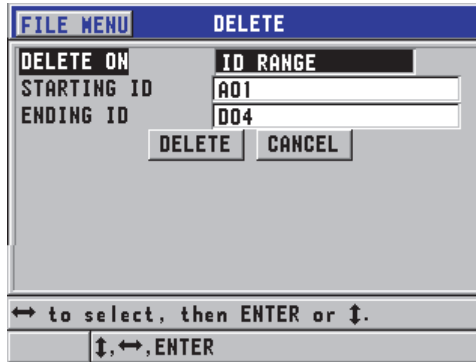

Figure 6-32 Deleting the data of an ID range in the active file
2. In the **DELETE** screen (see Figure 6-32 on page 123), set **DELETE ON** to **ID RANGE**.